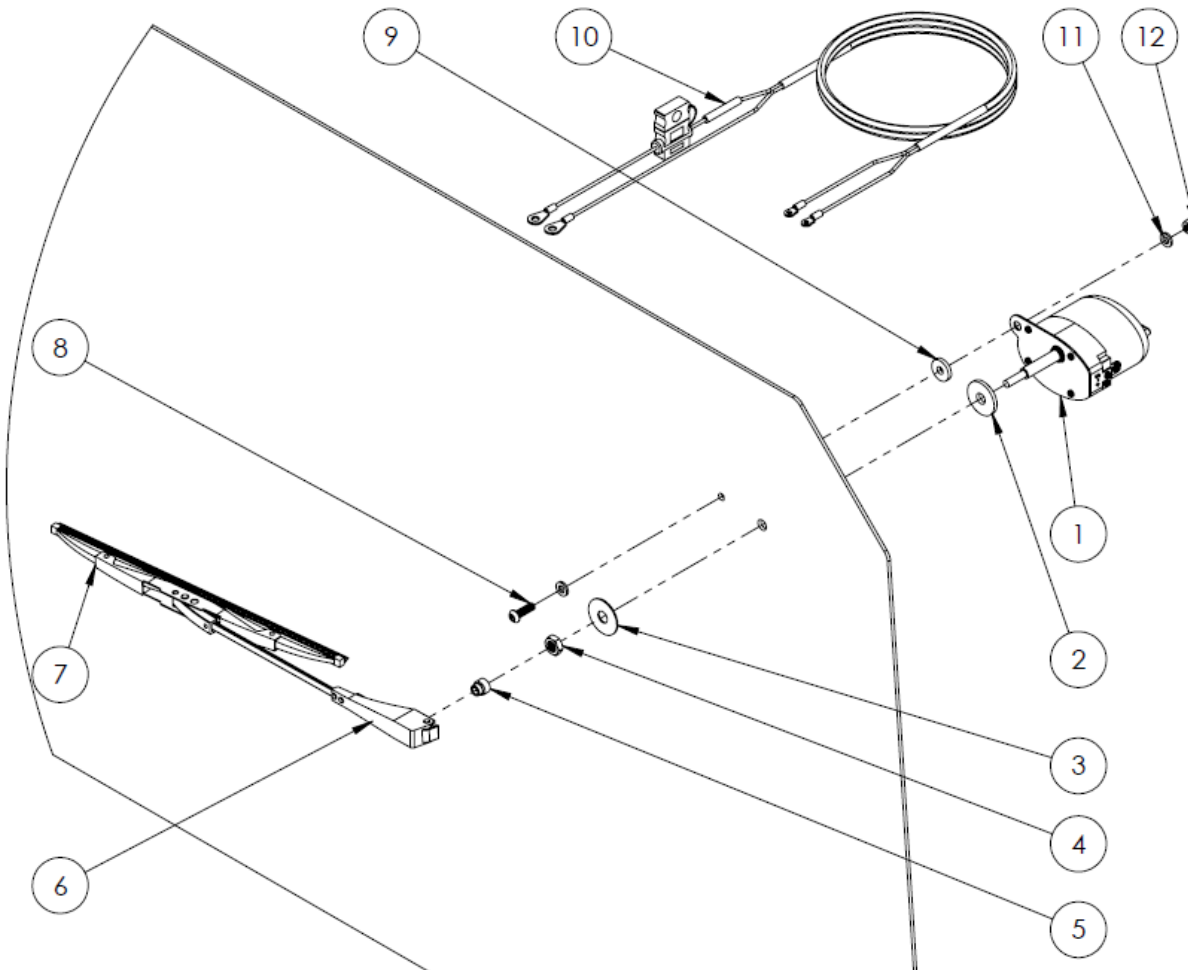

Figure 1
3. Install washers, bolts, nuts, rubber cap and motor as shown in Figure 1.